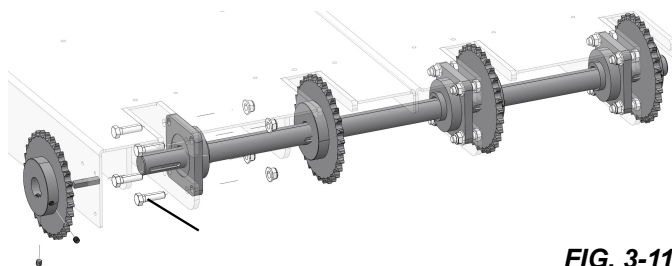

FIG. 3-11
2. Assemble the end table chain shaft as shown in FIG. 3-11.